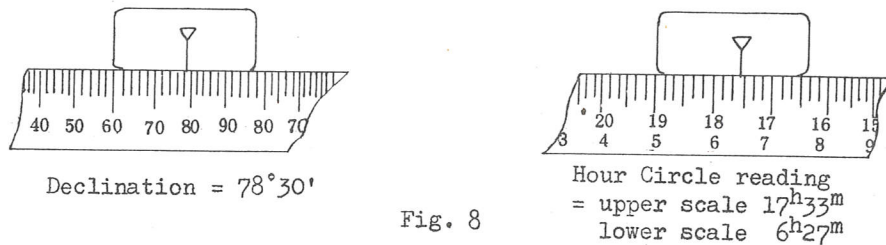

Fig. 8
- 5) **READING THE SETTING CIRCLES:** 2.4" Models - On the 2.4" equatorial mounting the setting circles are read through the use of a fixed index. The declination circle is divided into 2° divisions and can be read to an accuracy of approximately 30 minutes with the index, as illustrated in Fig. 8. The hour circle is graduated into ten minute divisions and can be read to approximately 3' with the index as shown in Fig. 8.